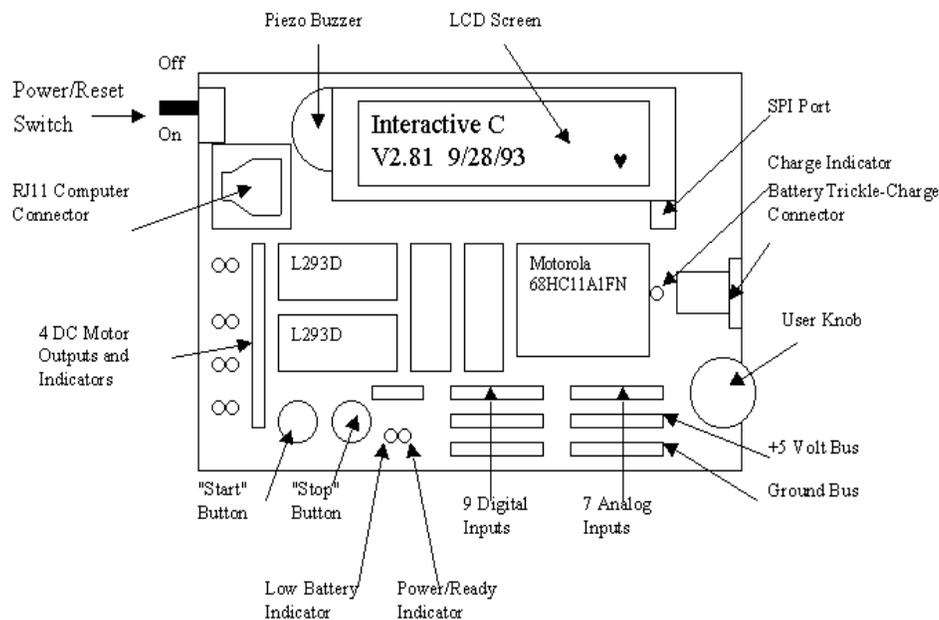
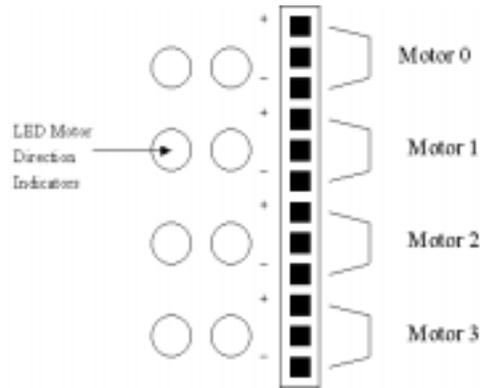

Figure 1: Handy Board Labeled Features
Figure 2: Arrangements of Motor Output Ports
The Handy Board is a small experimental board developed by Fred Martin of the MIT Media Laboratories. The main features of the Handy Board are a Motorola 68HC11 microprocessor chip, four DC motor outputs, seven 8-bit analog inputs, nine digital inputs, and a 16x2 LCD screen, as well as other features. It is easily programmable using Interactive C (a C programming language) developed by Randy Sargent of MIT. A diagram of the Handy Board with labeled features is shown below in Figure 1.
2. One end of the RJ11 modular cable (looks like a telephone cable) should be plugged into the computer connector port on the Handy Board (see Figure 1).
3. Insert the plug-in transformer into a wall outlet. Insert the other end into the receptacle on the Handy Board battery trickle-charge connector (see Figure 1). This step will keep the batteries on the Handy Board charged while you are working on it, but is not necessary if the batteries are fully charged.
The Handy Board is now ready to be turned on. Turn the power/reset switch on the Handy Board on (see Figure 1). The Handy Board screen should read:
Now type `beep();`<enter>. You should hear a short tone coming from the piezo buzzer (see Figure 1). Try typing `tone(800,.5);`<enter>. You should hear a tone at 800 Hz for 5 seconds. Other commands are included at the end of this lab handout. Explore them later.
Turns on motor port m at power level p. There are four motor ports on the Handy Board, labeled Motor-0, Motor-1, Motor-2, Motor-3 (see Figure 1 and 2 for location). The power level ranges from 100 for full on forward to -100 for full on backwards. Although the range of power levels goes from -100 to 100 in increments of 1, there are actually only 15 motor speeds (See Table II below).
The motor driver outputs (see Figure 1 for location of motor outputs on the Handy Board) are arranged as shown below in Figure 2:
Returns the position of the user knob (see Figure 1) as a value between 0 and 255.
Returns the value of the button labeled “start” (see Figure 1). Returns 1 if pressed and 0 if released.
Returns the value of the button labeled “stop” (see Figure 1). Returns 1 if pressed and 0 if released.